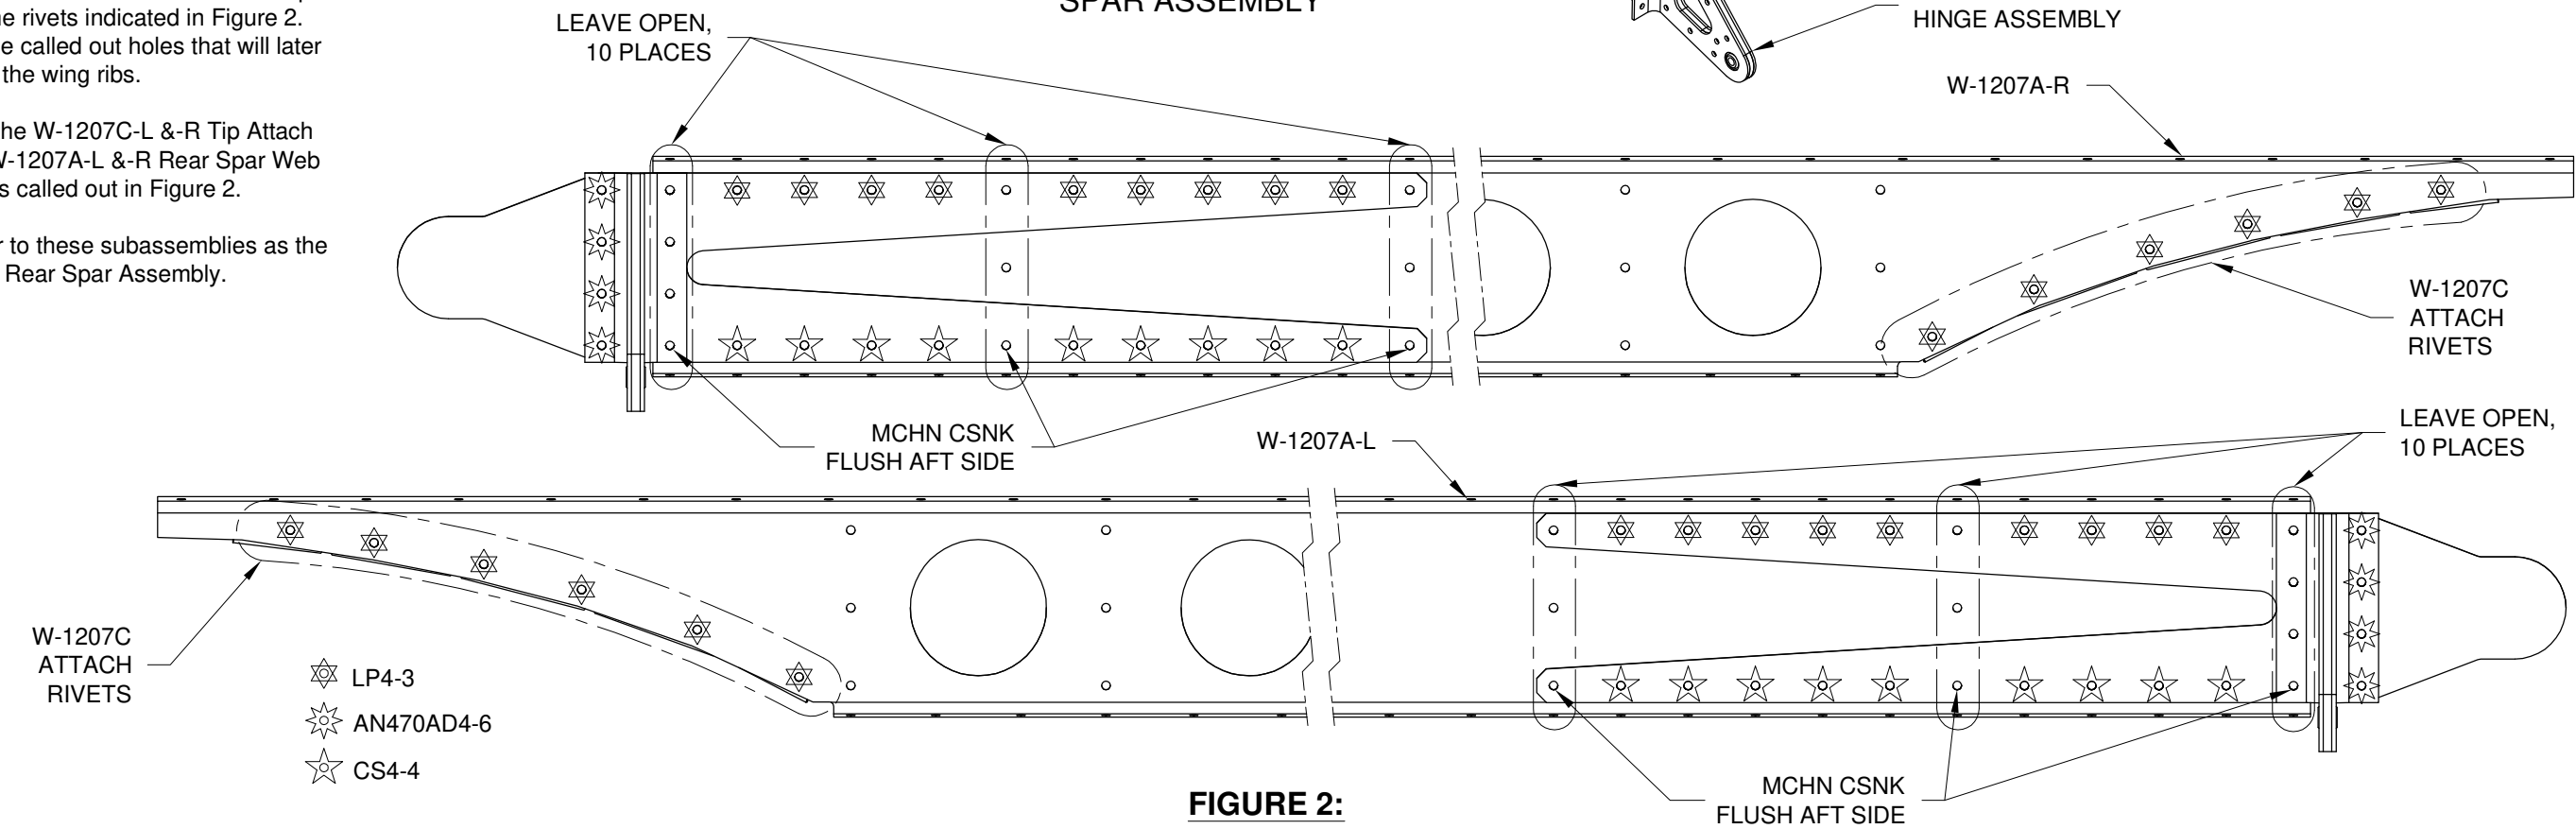

FIGURE 2:
Step 6: Rivet the Left and Right Doubler Assemblies to the W-1207A-L & -R Rear Spar Webs using the rivets indicated in Figure 2. Leave open the called out holes that will later correspond to the wing ribs.
Step 7: Rivet the W-1207C-L & -R Tip Attach Angle to the W-1207A-L & -R Rear Spar Web using the rivets called out in Figure 2.